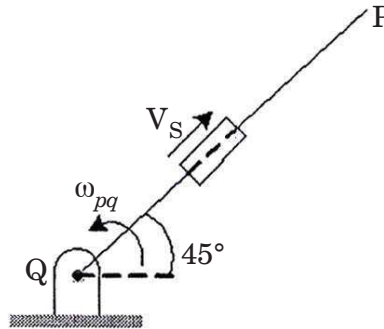

Fig. 2
7. (a) What is Coriolis acceleration ? Find the direction of this acceleration in the case shown in Fig. 2 : [4]